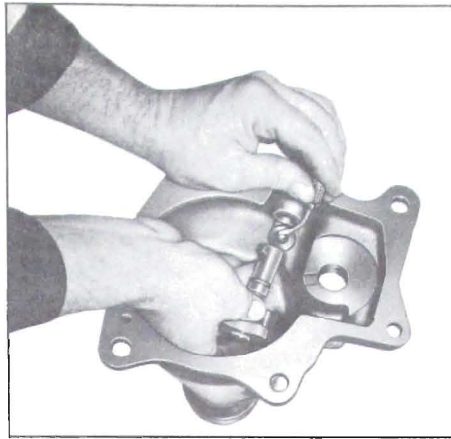

Figure 4-30—Installing Reverse Shifter Shaft
5. Place detent ball on spring and, holding ball down with a suitable tool (see Figure 4-30), push the shifter shaft into place and turn; the ball drops into place in detent on shaft detent plate.